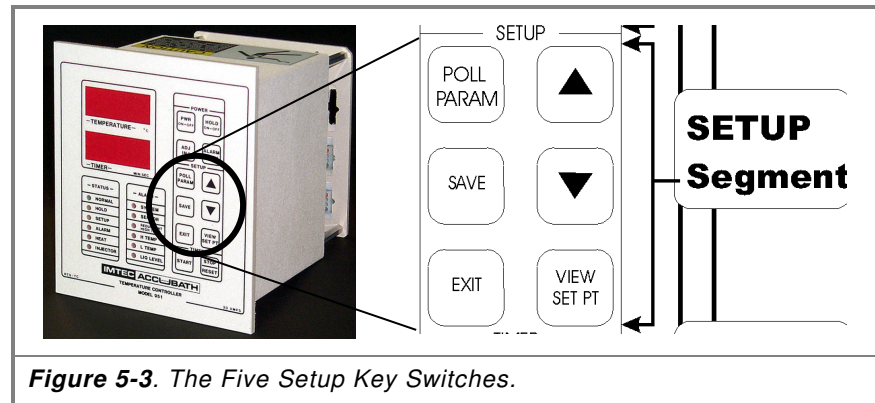

Figure 5-3. The Five Setup Key Switches.
There are six (6) Setup key switches, Figure 5-3.